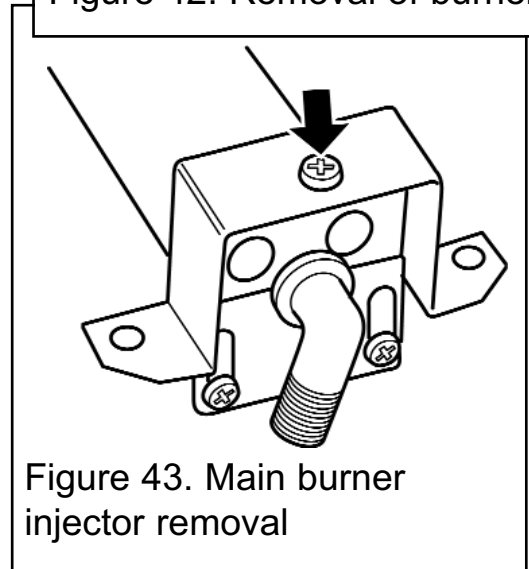

Figure 43. Main burner injector removal
(See figure 43).
2. Remove the burner clamping screw (See figure 43)